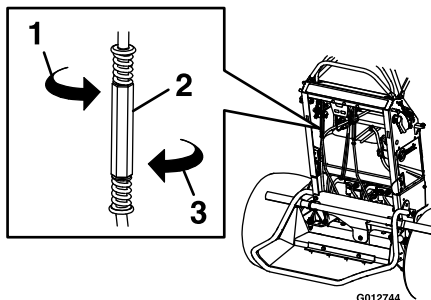

Figure 38
8. Turn the adjustment rod on the LH side (as viewed from the rear of the machine — see Figure 38) until the left control has approximately the same natural neutral position as the right. If more adjustment is needed, contact an Authorized Service Dealer. Final adjustment of the left side is done in the tracking adjustment section. If no adjustment is required, see **Check the Neutral Switch Alignment** section.
5. Rotate the adjustment rod on the LH side of the machine (as viewed from the rear of the machine — see Figure 38).